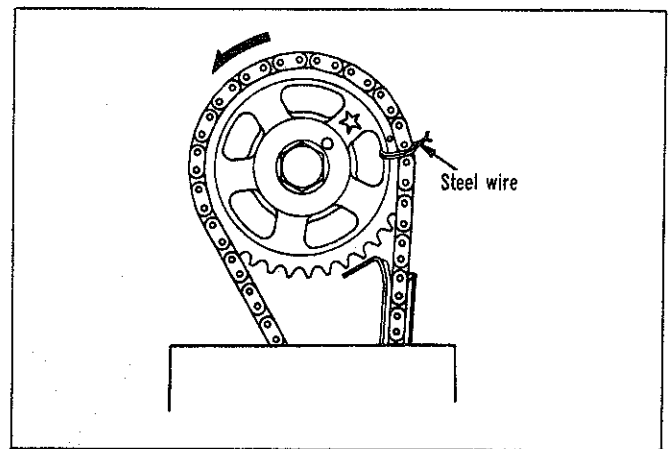

Fig. 5—Tying sprocket and chain
(9) With a suitable marking pencil, mark the timing chain in line with the camshaft dowel pin. Tie the sprocket with a steel wire as shown in Fig. 5.